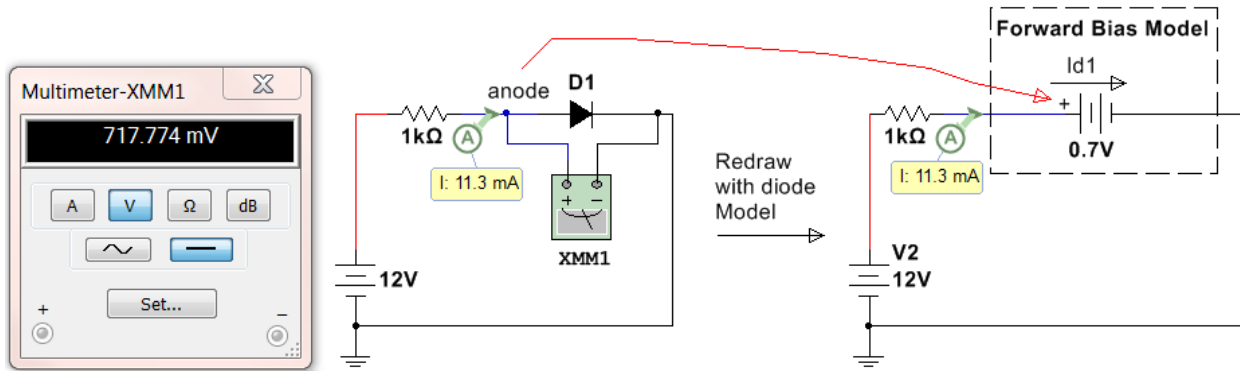

Figure 6.4: Circuit for Example 6.1
Step 2) The circuit on the right side of Figure 6.4 shows the forward bias model replacing the diode. **The node where the anode was connected is connected to the + side of the battery.** 0.7 V is used for the battery voltage because the problem stated it is a silicone diode. Next, calculate the current, I_{D1} .
- $I_{D1} = I_R = \Delta V/R = (12 - 0.7)/1k\Omega = \mathbf{11.3\ mA}$ (This is verified in Multisim in Figure 6.4)
Step 2) The circuit on the right side of Figure 6.4 shows the reverse bias model. **Notice the + side of the Multimeter that is measuring V_{D2} is on the same node as the anode was connected.** To solve for V_{D2} there are two possible methods.